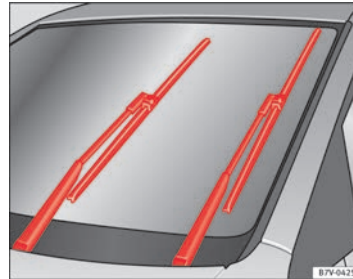

Fig. 128 Windscreen wipers in service position
- Turn ignition on and off and then (before approx. 9 sec.) move the windscreen wiper lever to the intermittent wipe position. The windscreen wipers will move to the service position ⇒ Fig. 128.